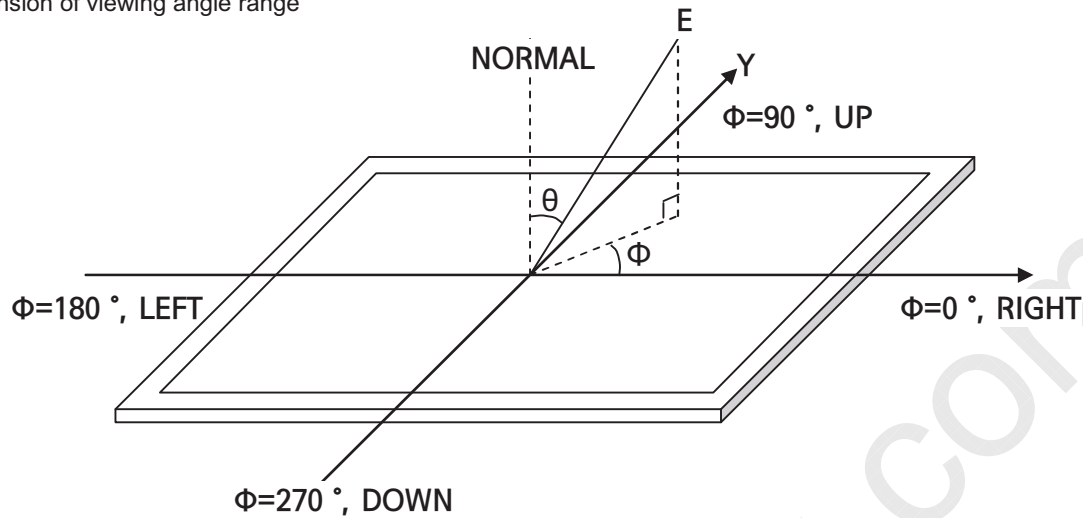

FIG. 10 Viewing Angle
6. Viewing angle is the angle at which the contrast ratio is greater than 10. The angles are determined for the horizontal or x axis and the vertical or y axis with respect to the z axis which is normal to the LCD surface. For more information see FIG.10